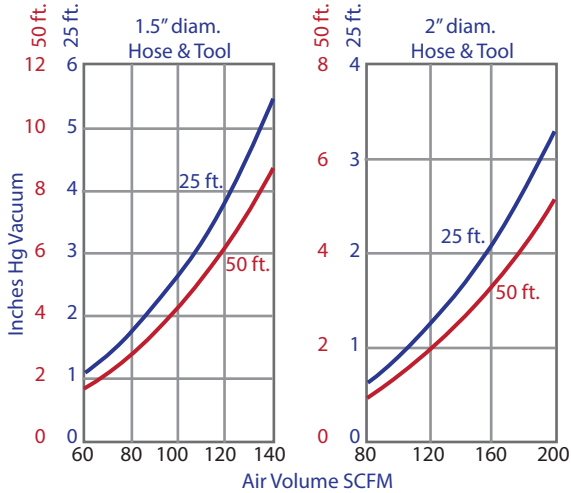

Fig. 2: Hose & Tool Friction Loss
- 1. Fig 2 "Hose and Tool Friction Loss" indicates the total loss for a given hose length with tool.